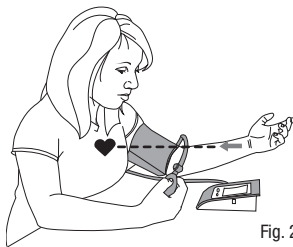

Fig. 2
3. Rest your elbow on a solid surface with your palm facing upward. Elevate your arm so that the cuff is at the same level as your heart, *Fig 2*. Relax your left hand.